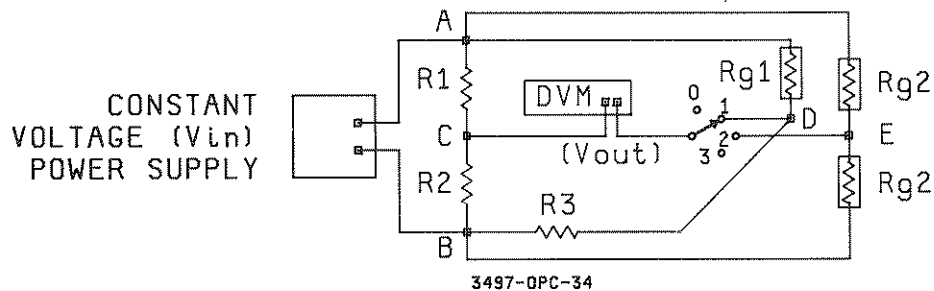

Figure 111. Option 070/071 - Bridge Circuits for Assemblies
The strain gauge assemblies use a bridge circuit called a "Chevron Bridge" for multichannel bridge measurements. Figure 111 shows the circuit setup which switches a DVM between gauges. One channel is shown as a $\frac{1}{4}$ bridge and the other as a $\frac{1}{2}$ bridge (two active gauges). Resistors R1, R2 and R3 form three sides of the bridge and the excitation voltage (V_{in}) to the gauges is continuously applied.
To make strain gauge measurements with this circuit, the DVM is switched between points C-D, D-E, etc. and measures V_{out} for each channel. Although not shown in Figure 111, the DVM can also be switched to measure V_{in} . The procedure to measure strain with this circuit is (assuming that the Gauge Factor is known):
- (1) measure V_{in} and store the value.
- (2) measure V_{out} for channel #1 ($\frac{1}{4}$ bridge in Figure 111) with the gauge unstrained.
- (3) measure V_{out} for channel #1 with the gauge strained.
- (4) compute strain from $\epsilon = -4V_r/GF(1 + 2V_r)$. [$\frac{1}{4}$ bridge]
- (5) switch the DVM to channel #2 (shown as a $\frac{1}{2}$ bridge in Figure 111) and repeat steps (2) through (4).